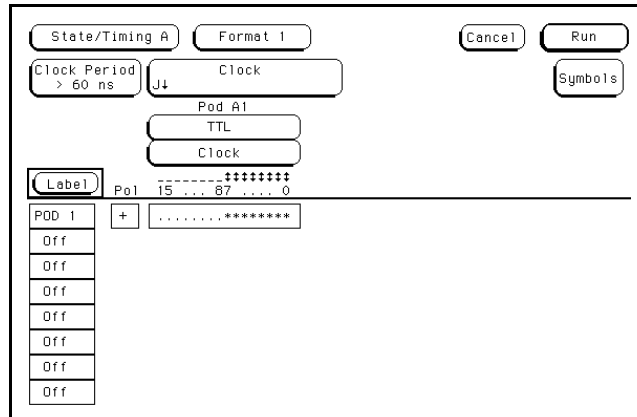

Figure 3-5. Format Screen for Pod 1 and J Clock Test
4. Assign appropriate clock, a falling edge, a clock period > 60 ns, and bits 0 through 7 of the pod under test to a label in the Format screen as shown in figure 3-5. Refer to steps *a* and *b* if unfamiliar with the menus.